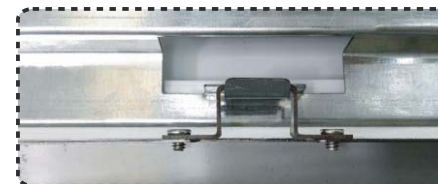

Figure 3
Step5: Hang the retrofit troffer by its hinges on one of the mounting brackets and hang the safety cable in the housing to right position. (Figure3)